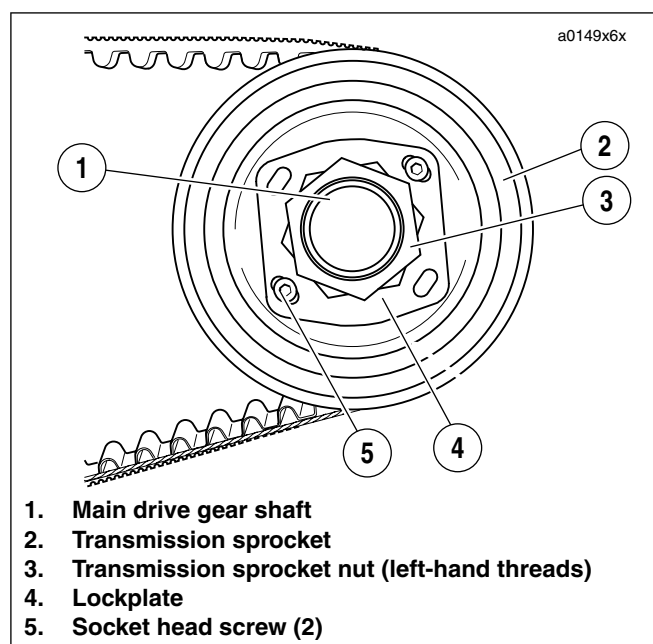

Figure 6-55. Transmission Sprocket
1. See Figure 6-55. Place transmission in first gear. Remove two socket head screws (5) and lockplate (4).
2. See Figure 6-55. Remove transmission sprocket nut (3) from main drive gear shaft (1).
1. See Figure 6-55. Install transmission sprocket (2) with secondary drive belt onto main drive gear shaft (1).
3. Apply a few drops of LOCTITE 262 (red) to the **left-hand threads** of transmission sprocket nut (3) and lightly coat the washer-faced side with clean H-D 20W50 engine oil. Wipe off any excess oil.
9. See Figure 6-55. Install lockplate over nut so that two of lockplate's four drilled holes (diagonally opposite) align with sprocket's two tapped holes.
11. See Figure 6-55. Install two socket head screws through aligned holes of lockplate and into tapped holes of sprocket. Tighten to 90-110 **in-lbs** (10-12 Nm).